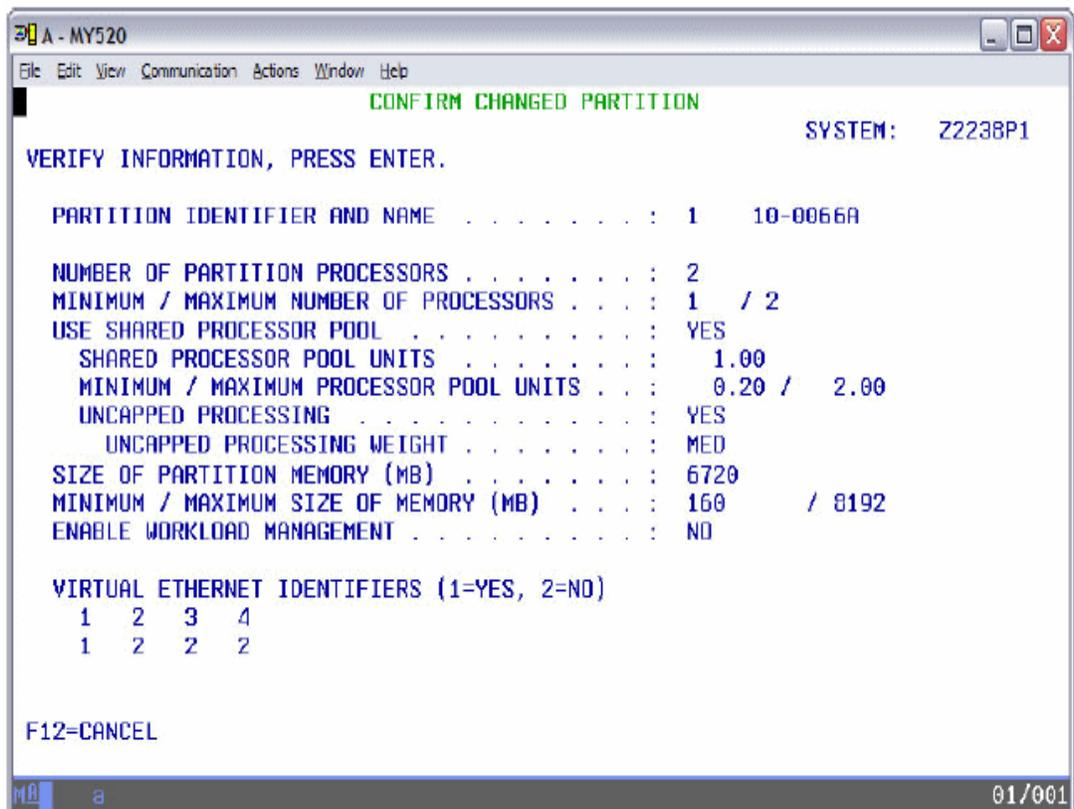

Figure 13-11 Confirm Changed Partition
8. Remove CPU and memory resources, enable the i5/OS partition to take advantage of shared processor pool and uncapped processors, and enable a virtual Ethernet port for inter-partition communications. Press Enter. The message screen shows in Figure 13-11.